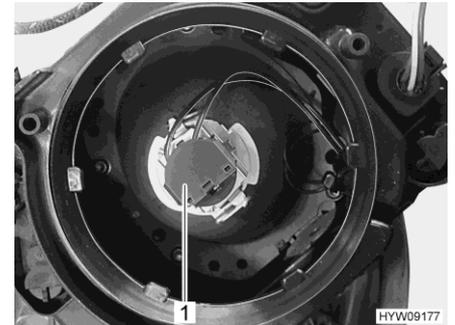

Fig. 150 Bulb (low beam/main beam)
- Turn the holder (Fig. 150,1) with the lamp in an anticlockwise direction and take it out of the lamp housing.
- Insert the holder (Fig. 150,1) with bulb into the lamp housing and tighten in a clockwise direction. The holder engages audibly.